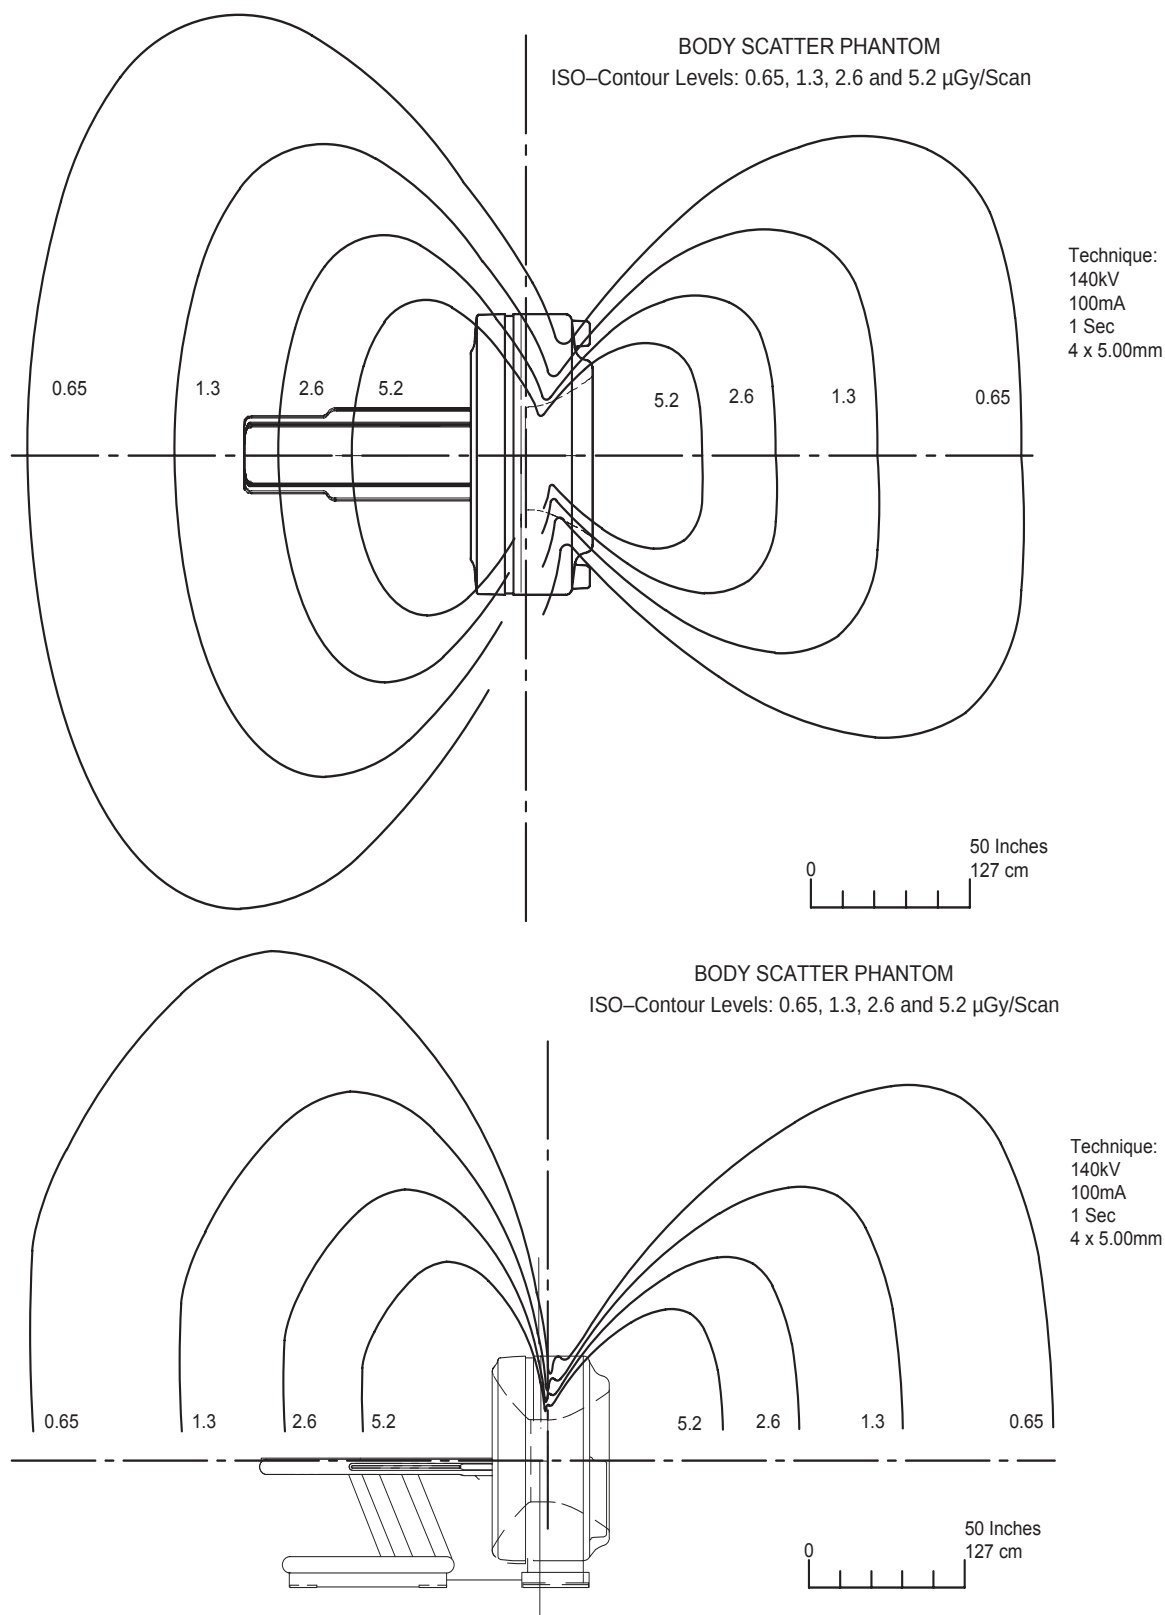

Figure 4-15 Typical Scatter Survey (Body Phantom)
- Scatter radiation levels within the scanning room (see Figure 4-15)
Figure 4-15 depicts measurable radiation levels within the scanning room while scanning a 32 cm CTDI phantom (body) and a 20 cm water phantom (head) with the technique shown.